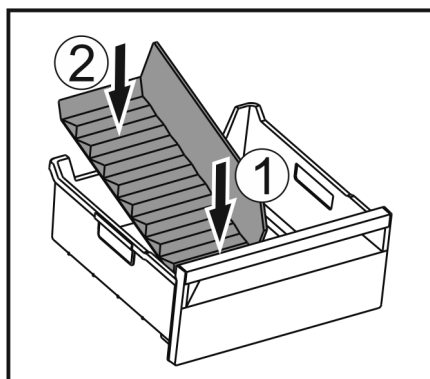

Fig. 120
- Insert the front part of the ice compartment divider. Fig. 120 (1)
- Lower the rear part of the ice compartment divider to the drawer bottom. Fig. 120 (2)